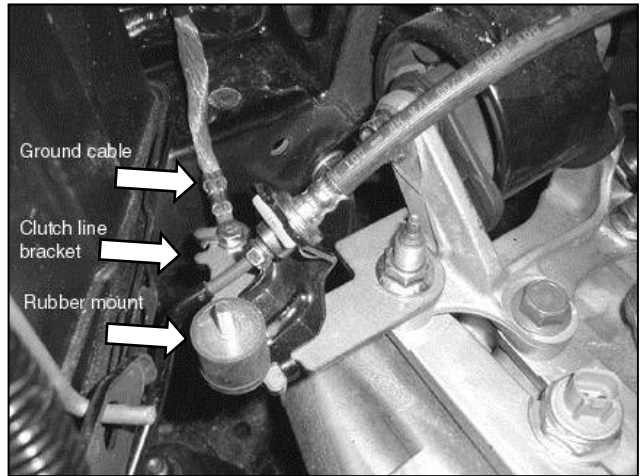

Fig. 12
- j. Attach the ground cable to the new transmission bracket using the original bolt. **(Fig. 12)**